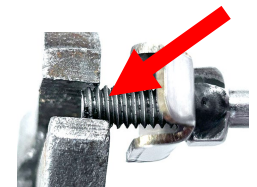

Figure 3
- Using pliers, twist the pliers and distort the last two threads of the bolt, so the nut resists unscrewing (see Figure 3). **WARNING: Skipping this step can allow the bottom guard assembly to loosen and fall off, which may cause damage to the drain.****